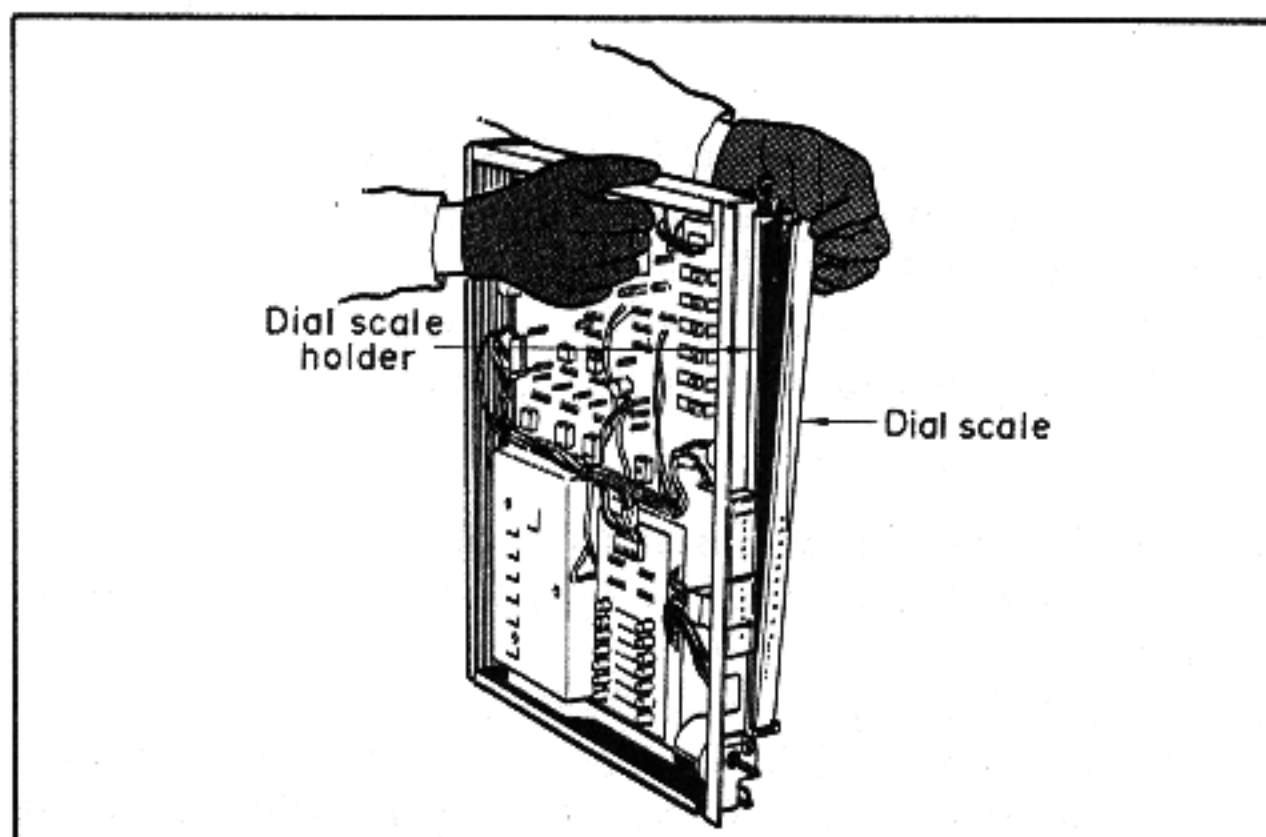

Fig. 2
- c. As in Fig. 2, depress the dial scale in the direction of arrow 1, and then remove it in the direction of arrow 2.
- \* When the dial scale is attached to the holder, depress in the direction of arrow 1 in Fig. 2 and at the same time slip it into the holder.
- d. Remove screw (6) and (7) in Photo 3 (M3 x 6 bind head screws) and then remove the dial scale holder.